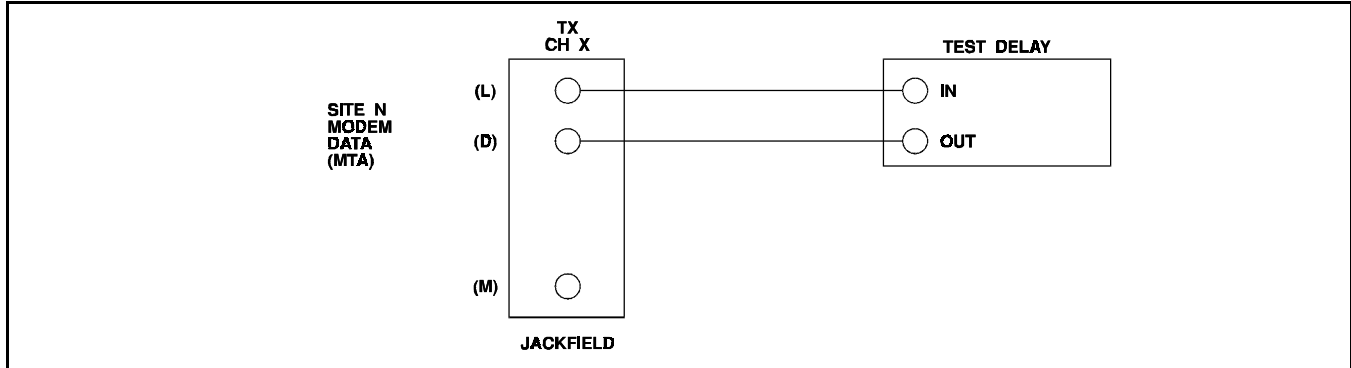

Figure 2 - Test Hook-Up
1. Connect the Test Delay in series with the Tx modem audio going to the site under test on the Control Channel as shown in Figure 2.